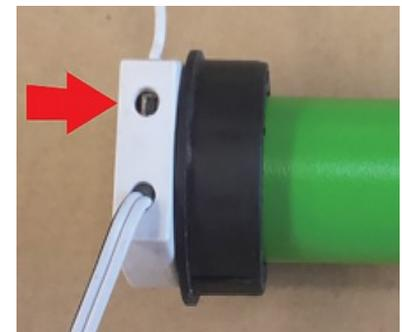

FIG.8
**Note: If at any time during programming you need to reset the shade, press and hold the reset button on the motor (Fig. 8).**
To replace a remote, press and hold the reset button on the motor (Fig. 8). Button must be pressed in the center. Shade will jog. With your finger still holding down the reset button, press and hold the up and down arrow buttons on the remote together, all at the same time. Shade will jog. The new remote is paired with the shade. See above for instructions on how to set the upper and lower limits.